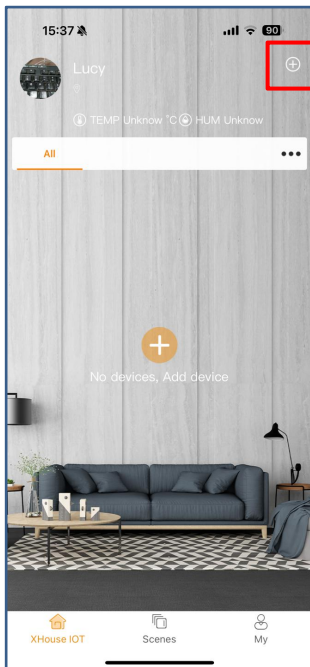

Fig 1
Step 1. Power on the device, open the APP. Press the “⊕” on the top right corner to add the device, then select the “Swinging Gate” which has a orange cycle on the top right corner. (Fig 1 and 2)